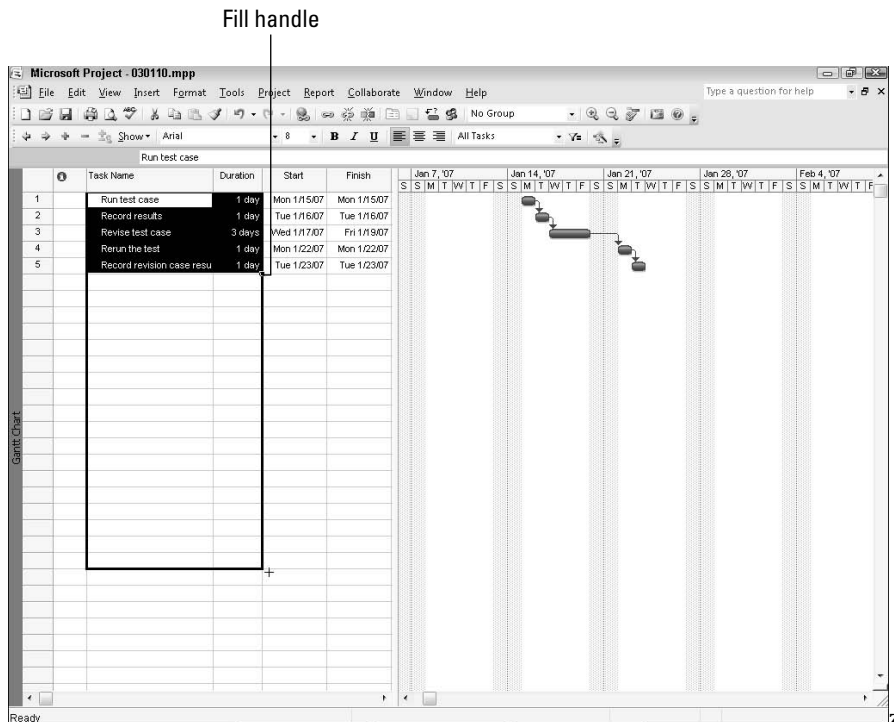

Figure 1-13: Take advantage of the fill handle to copy tasks that repeat.
3. Drag the fill handle down until you have selected the group of rows that you want to contain the repetitive tasks (see Figure 1-13).